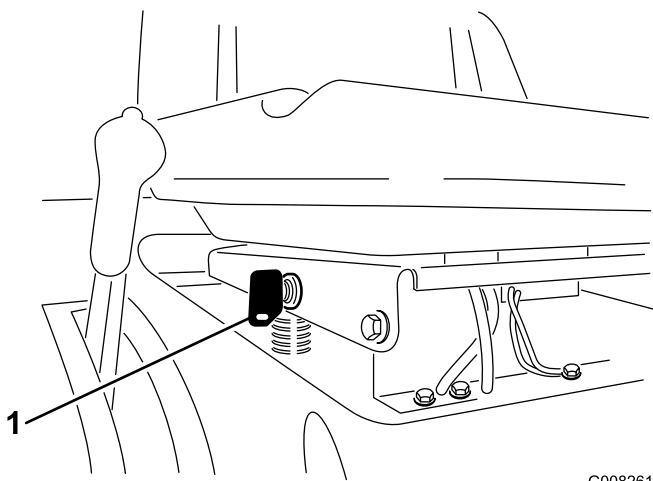

Figure 13
If you need to use the blades (PTO) while backing up, turn off the interlock feature using the KeyChoice switch located near the seat bracket (Figure 13).
2. Insert the KeyChoice key into the switch (Figure 13).